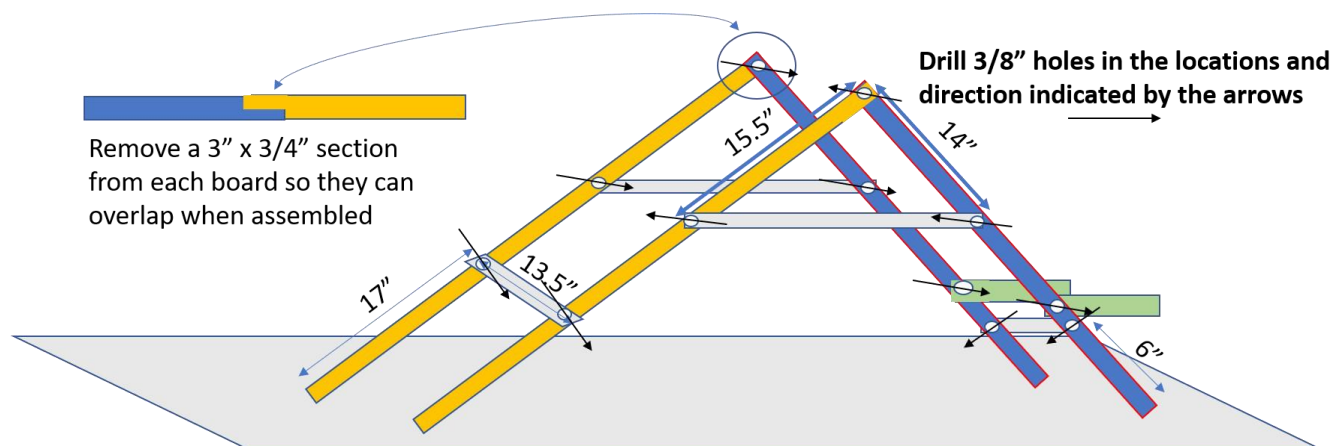

Figure 9. Stand joints and bolt locations.
1. Join the stand pieces at the positions shown in Figure 9. Insert bolts from the outside, with threaded ends inward.